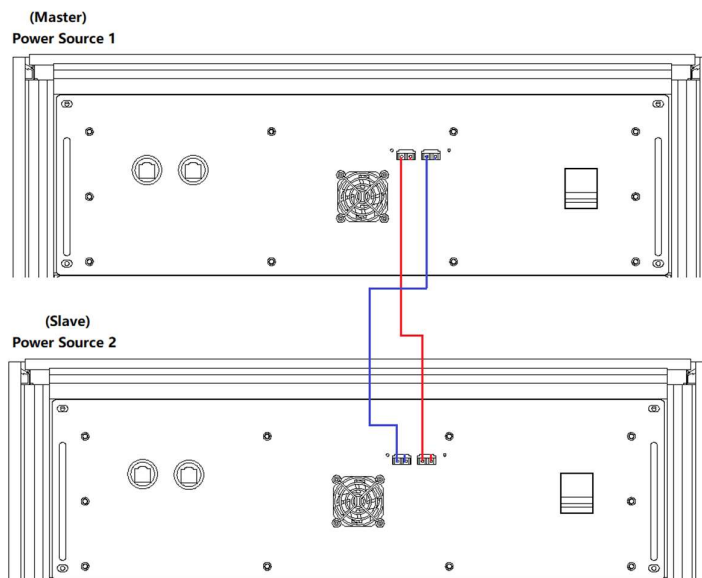

Figure 1-25 Optical fiber cable wiring diagram
**Step 2:** As shown in Figure 1-25, connect the optical fiber cables of the power supply.